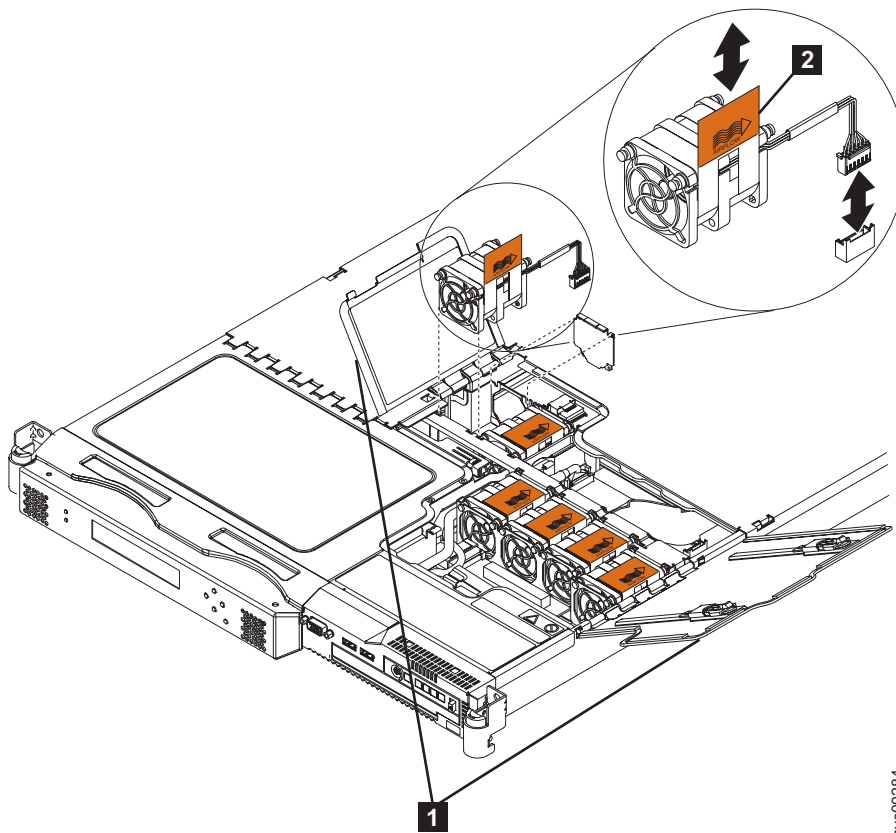

Figure 243. SAN Volume Controller 2145-8G4 fan doors, locations, and connectors
1. Orient the new fan in the same position as the fan that you removed. Make sure that the airflow indicator on the orange tab, (**2** in Figure 243) is pointing to the rear of the node.